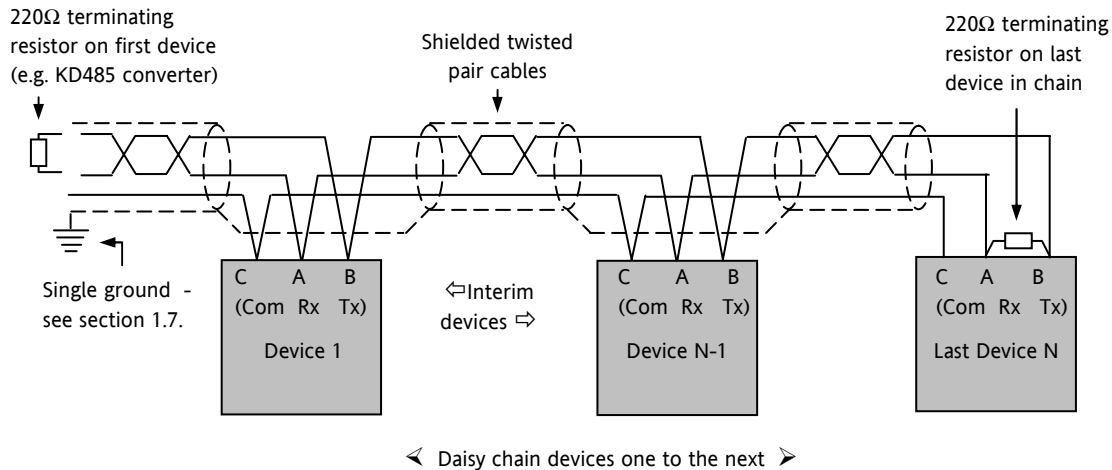

Figure 1-1: EIA485 3-wire Transmission
(2) All network communications lines must be terminated using the appropriate impedance as shown in Figure 1-1. To simplify installation a plug-in line terminator is available, order code 2500A/TERM/MODBUS/RJ45 which can be plugged into the free socket in the last EPower controller unit in the chain. This provides correct terminating resistor values for CAT-5 cable.
Example 2:- It is also likely that other units such as 3500 controllers may also be required on the network. The diagram below shows an example of a 3000 series instrument connected to the above network. Instruments may be connected at any point in the network but daisy chaining and correct line terminations (Figure 1-1) should be observed.